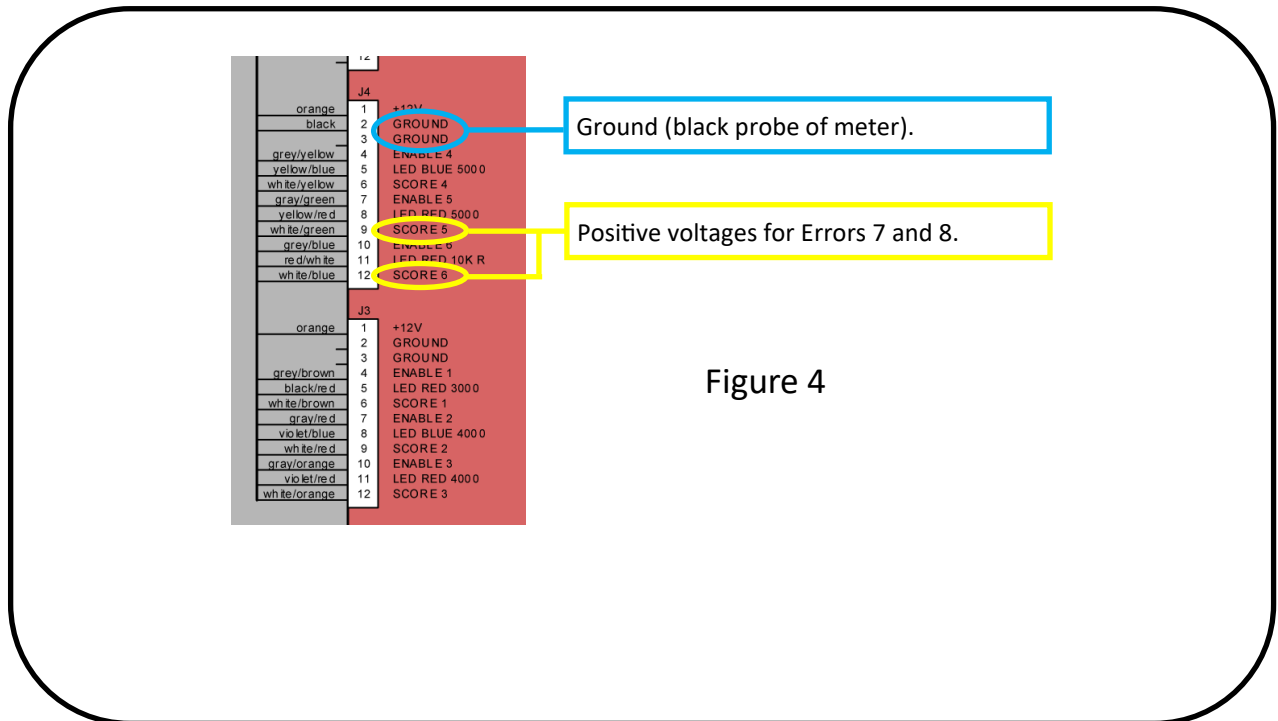

Figure 4
**Step 6:** Check the voltage on pin 9 of connector J4 for Error 6 and pin 12 of connector J4 for Error 7 on the main board (See figure 4). Is there around +5 volts when the sensor is not blocked? If yes does it drop to about nothing when blocked? If yes, replace the main board assembly.